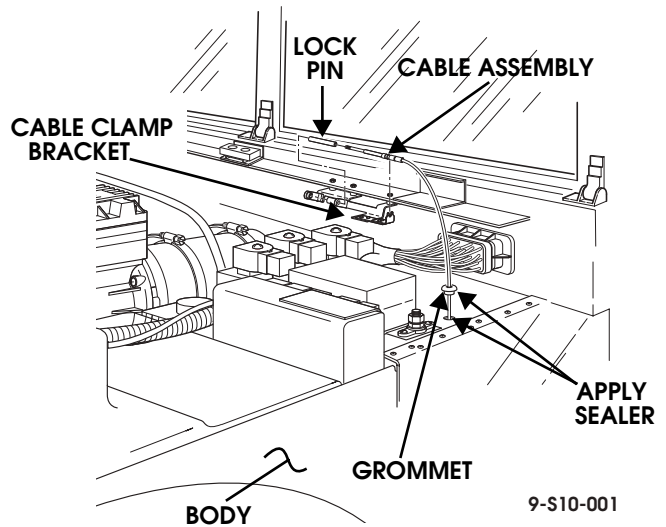

Figure 10-77: Hood Release Cable Assembly
3. Remove cable assembly from cable clamp bracket (Figure 10-77).
1. Install lock pin on cable assembly (Figure 10-77).
4. Remove cable assembly from cable clamp bracket (Figure 10-77).
4. Secure cable assembly to cable clamp bracket (Figure 10-77). Seal grommet with silicone sealer.